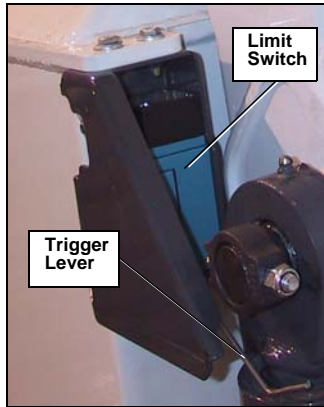

Figure 90. Left-hand side tailgate cylinder
Non-comingle Expert(t) 2000™ units are equipped with a limit switch located on top of the left-hand side tailgate cylinder (Figure 90. “Left-hand side tailgate cylinder”). When the tailgate latches are unlocked, the cylinder releases the limit switch lever that activates the backup alarm and a warning buzzer inside the cab.
3. Adjust the trigger lever of the limit switch so the limit switch will “click”, as the cylinder head is moving down (Figure 90. “Left-hand side tailgate cylinder”).